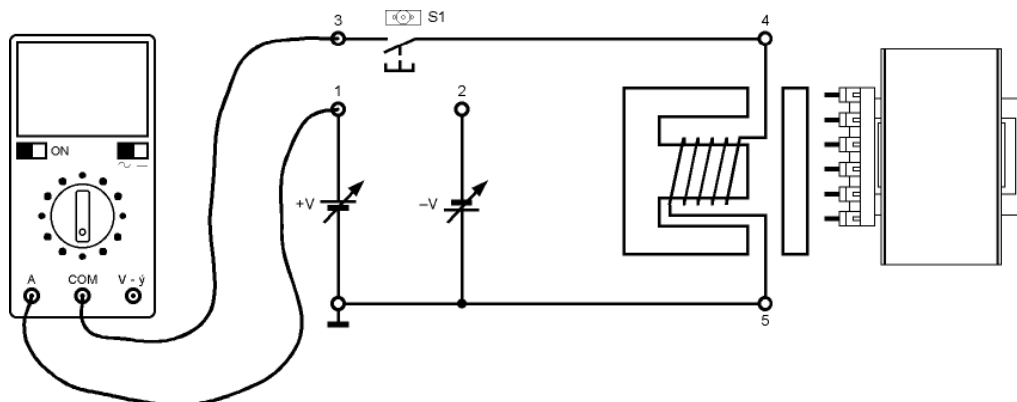

Fig. 5.4: Topographical diagram of positive voltage for electromagnet
3. Connect a multimeter, set as ammeter, between jack 1 and jack 3 (Fig.5.4);